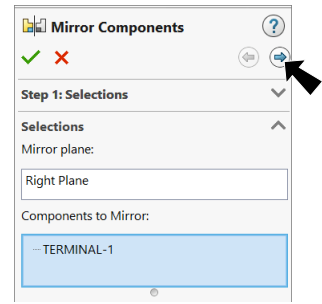

Fig. 9
Step 3. In the Mirror Property Manager: Step 1: Selections all were preselected click **Next**  **Fig. 9**.